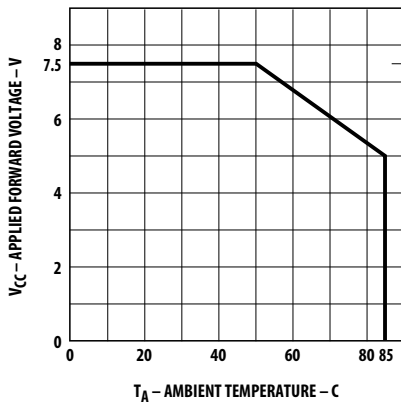

Figure 3. Maximum allowed applied forward voltage vs. ambient temperature $R\theta_{JA} = 175^{\circ}\text{C}/\text{W}$. 5 volt devices.
2. Derate from T_A = 50°C at 0.071 V/°C, see Figure 3.